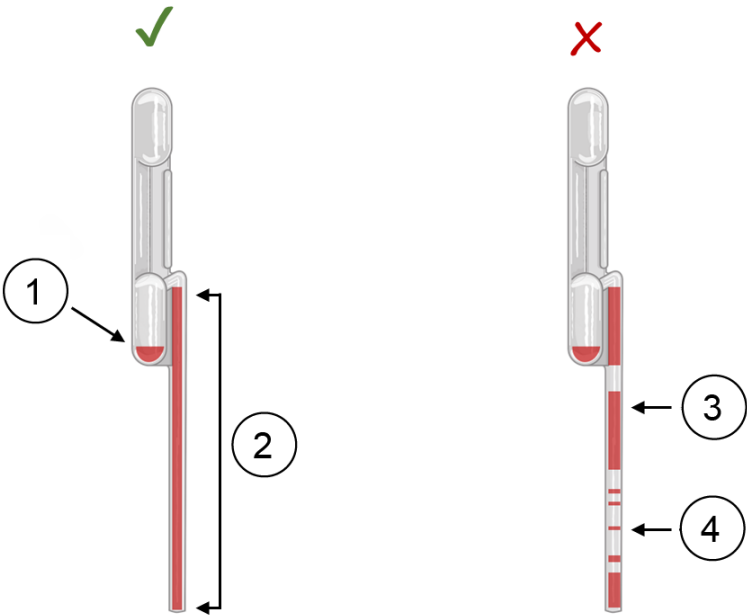

Figure 2. Xpert HIV-1 Qual XC Test 100 µL Transfer Micropipette (Correct and Incorrect Use)
2. Immediately transfer 100 µL WB using the micropipette provided (Figure 2) by squeezing the upper bulb and then gently releasing to aspirate the blood into the micropipette. Excess blood will overflow into the lower bulb.
Important Make sure NOT to aspirate air into the pipette after the pipette has been lifted from the blood surface in the EDTA collection vessel, as this can lead to insufficient blood volume (See Figure 2.) Do NOT pour the specimen into the chamber! Discard the pipette after use.